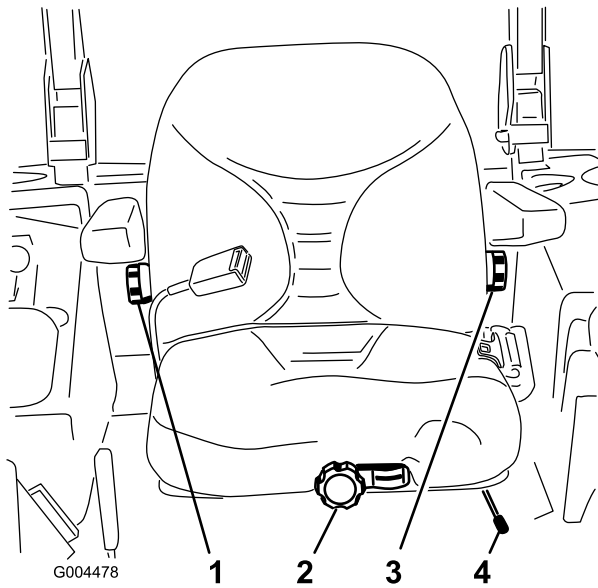

Figure 14
1. To adjust the seat, move the lever sideways to unlock the seat (Figure 14).
Without sitting on the seat, turn the knob in front in either direction to provide the best comfort (Figure 14).
To adjust the back of the seat, turn the knob, located under the right-side armrest, in either direction to provide the best comfort (Figure 14).
To adjust the back of the seat, turn the knob, under the left-side armrest, in either direction to provide the best comfort (Figure 14).